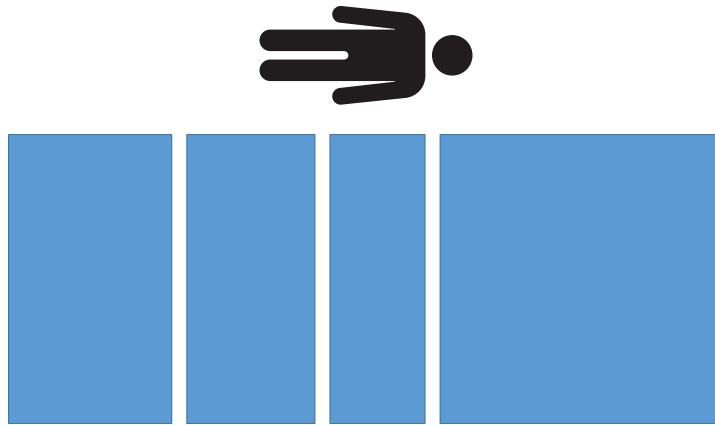

Figure 24 – Weight performance test - 0 kg
12. Remove all calibrated weights from the product (Figure 24).